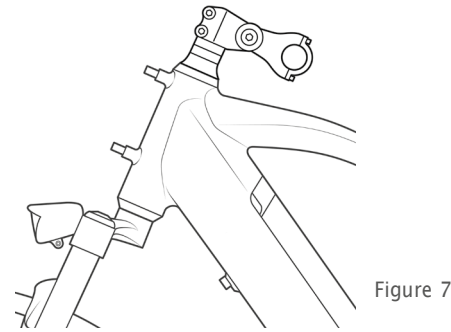
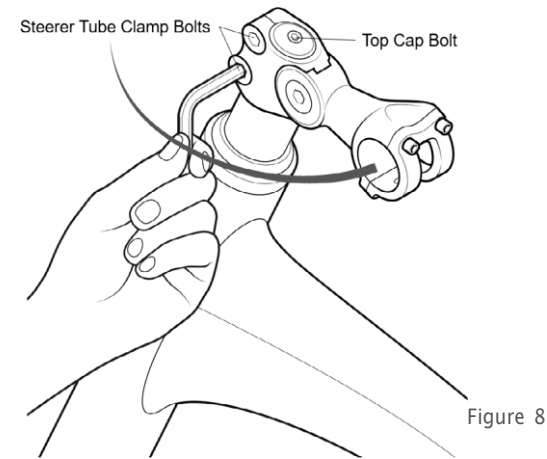
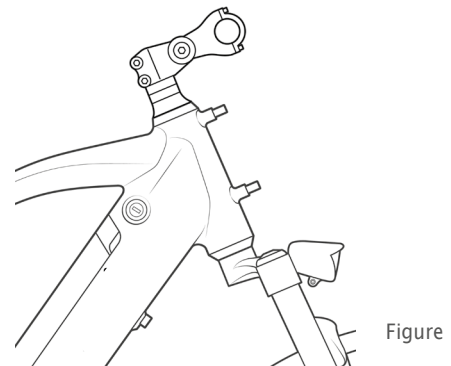

Figure 7
Figure 8
Figure 9
4.1 If the bike arrived with the stem rotated around as shown in Figure 7, the stem will need to be rotated forwards. The stem on some of our models may come pointing backwards to save space in the box. If the stem is pointing forwards as shown in Figure 9, proceed to installing the handlebar in 4.4.
4.2 To rotate the stem around, first loosen the two bolts clamping the stem onto the steerer tube, labeled in Figure 8. Once the bolts are loose, brace the fork with your feet or legs and rotate the stem around clockwise as shown in Figure 8. After rotating the stem around, if the fork seems harder to turn (tight headset bearings), then the top cap bolt labeled in Figure 8 needs to be loosened. While the two stem bolts are still loose, loosen the top cap bolt one quarter turn. If the headset bearings still feel tight, loosen the top cap bolt one more quarter turn. The fork should be able to rotate with little force.
4.3 Once the top cap bolt is set and the stem is pointing directly forwards, tighten the stem bolts previously loosened in Figure 8. The torque for these is 11 to 12Nm. These bolts should be tightened progressively. Turn the top one a quarter turn, then the bottom one a quarter turn, then the top one etc. The stem and fork should now be oriented as shown in Figure 9.